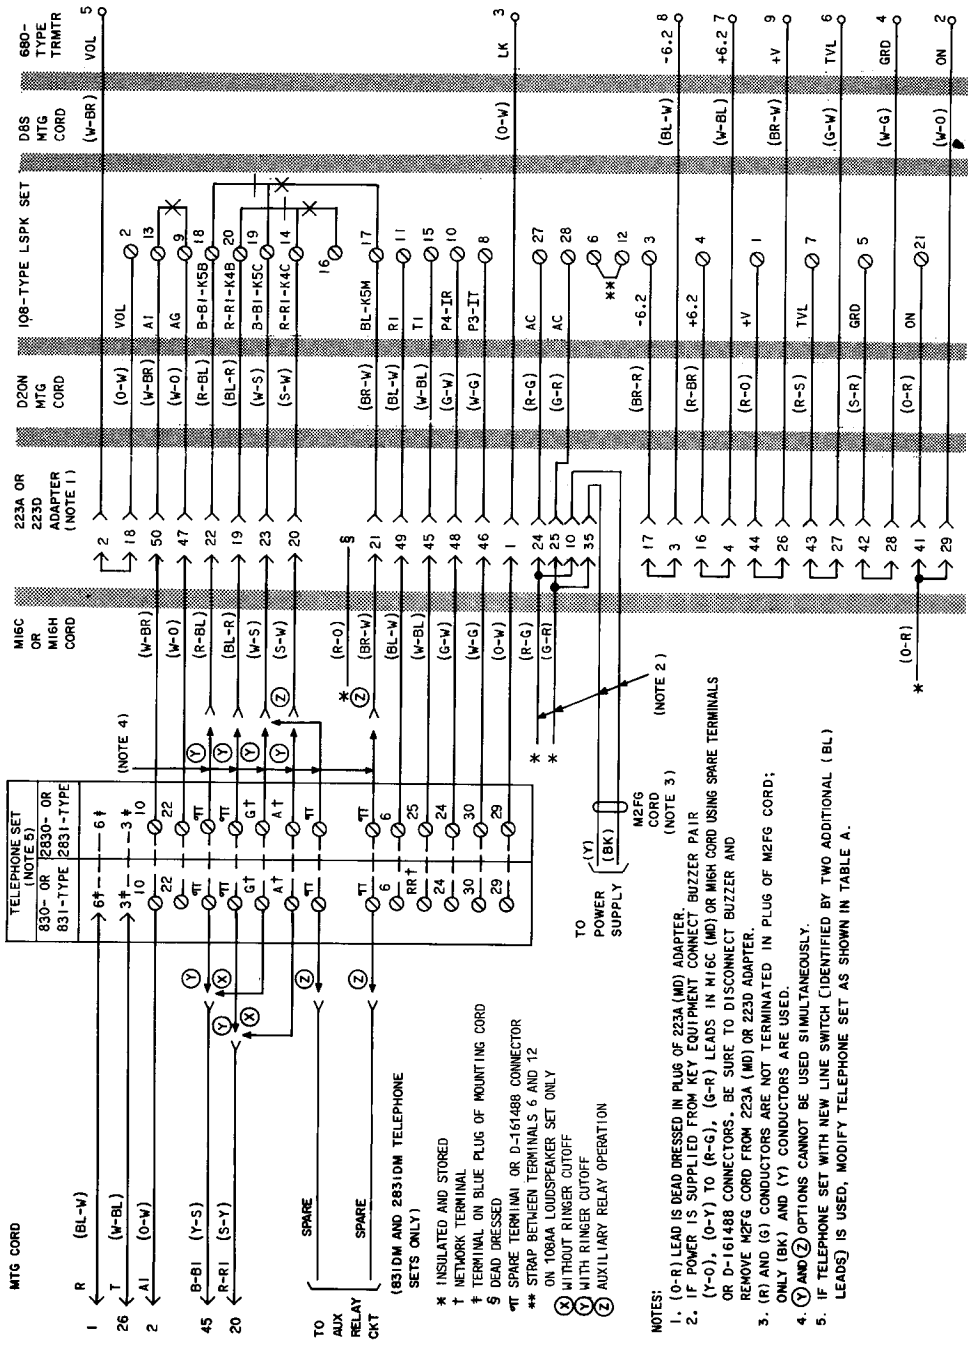

Fig. 2—4A Speakerphone System Arrangement, Connections to 10- or 20-Button Telephone Set
2.02 Ringer Cutoff can be provided by connecting ringer leads as shown in Fig. 2. Ringer cutoff provides cut off of the telephone set ringer